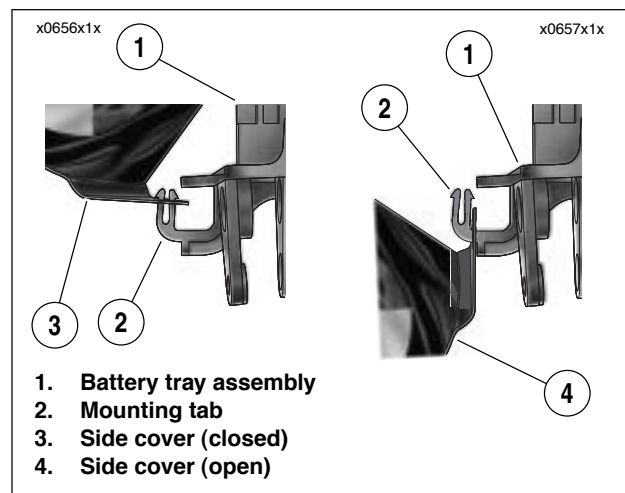
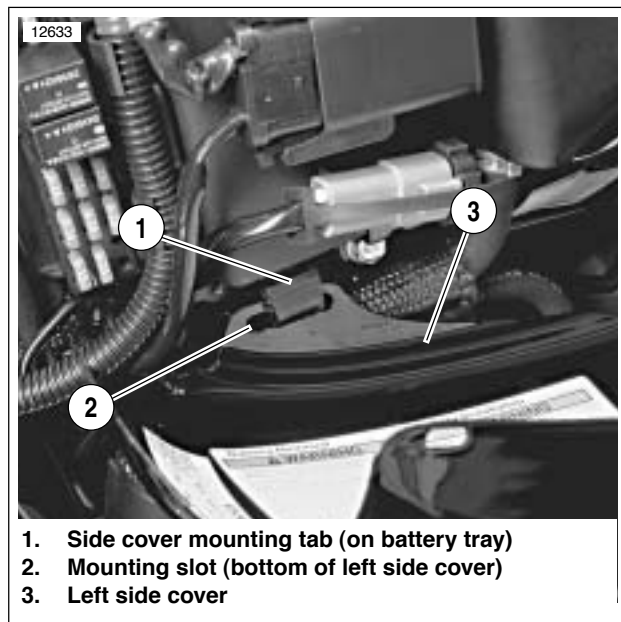

Figure 1-11. Left Side Cover
Figure 1-12. Left Side Cover in Open Position
3. While rotating top of cover out away from motorcycle, slide cover down slightly so mounting slot (4) slides down mounting tab (2) on battery tray. See Figure 1-11. See Figure 1-12. Side cover (3) will now rest on top of rear brake master cylinder reservoir and left passenger footrest (if equipped) with slot (2) hanging off bottom of mounting tab (1).
Do NOT lean on left side cover or place tools or parts on side cover while it is in "open" position shown in Figure 1-12. Doing so could damage side cover and/or break mounting tab on battery tray.
1. See Figure 1-12. Grasp top corners of side cover (3). While rotating top of cover up toward motorcycle, gently pull cover up so that mounting slot (2) slides up mounting tab (1).